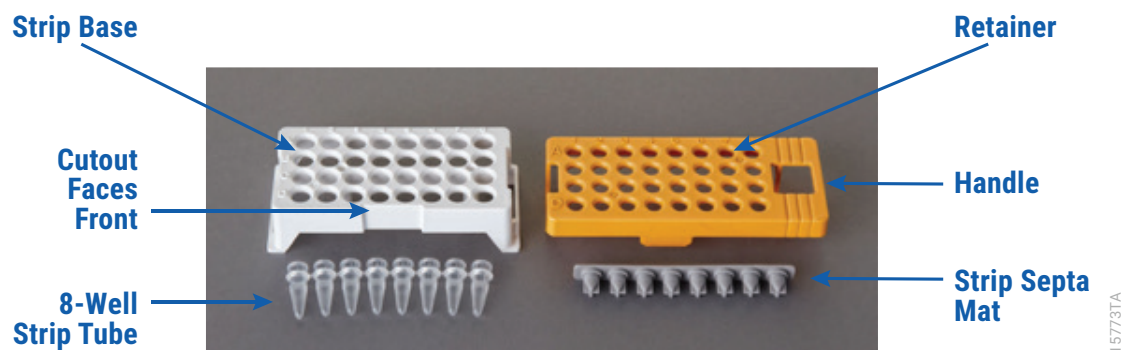
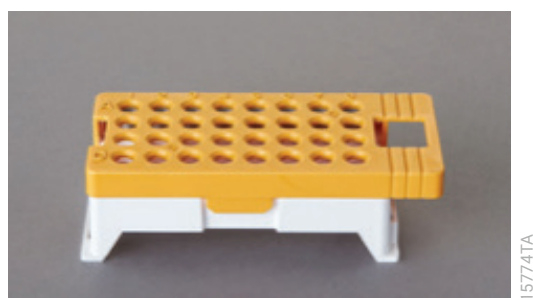

Figure 1. Assembling the Spectrum Compact Strip Base and Retainer.
Figure 2. Assembled Spectrum Compact Sample Cartridge.
Samples prepared in 8-well strip tubes are assembled into the strip base and retainer (Figure 1) to form the sample cartridge (Figure 2), which can be loaded onto the Spectrum Compact CE System. Samples are injected in groups of four, such that one 8-well strip tube can be used for two injections. Each 8-well strip tube corresponds to one lane (A, B, C or D) of the sample cartridge. Samples are injected in groups of four across a lane (not by column). For example, samples in well positions A1 through A4 are injected together, followed by samples in well positions A5 through A8 for the second injection. This pattern is then repeated for samples in lanes B, C and D. Refer to the *Spectrum Compact CE System Operating Manual #TMD058* for information on changing the order of injections during run setup.
1. Place the 8-well strip tube(s) with the Strip Septa Mat, 8-well, into the strip base (Figure 1). When using fewer than 4 strips in the run, you can place the strips in any lane.
2. To complete the assembly, place the retainer over the strip(s) in the strip base, aligning the lane names A to D and well numbers 1 to 8 on the retainer to those on the strip base and pressing until the retainer clicks into the strip base (Figure 2).